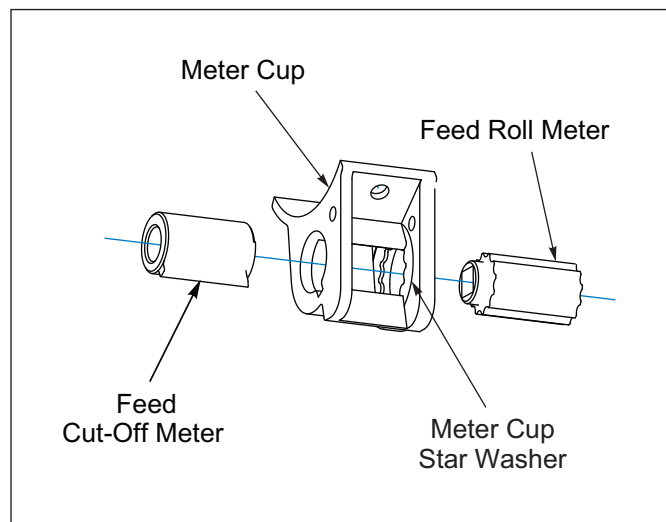

Figure 5-9: Individual Seed Meter Cup
3. Individual Seed Meter Adapters with Seed Meter Cup attached or Seed Meter Cups (if Meter Adapter is not used) can be adjusted as required. Adjustments can be made by loosening the 1/4-20 x 3/4 Machine Screws that mount the Seed Meter Adapter or Seed Meter Cup to the Seed Box and the 1/4-20 Nut that attaches the Seed Meter Support to the Seed Meter Cup. Adjust the affected Seed Meters so the Feed Cut Off is against the star washer in the Seed Meter Cup (closed). Be sure the Meter Feed Roll stays engaged in the Seed Meter Star Washer. See Figure 5-9. After adjustments have been made seal the Seed Meter Adapter to Seed Box with clear Silicone.